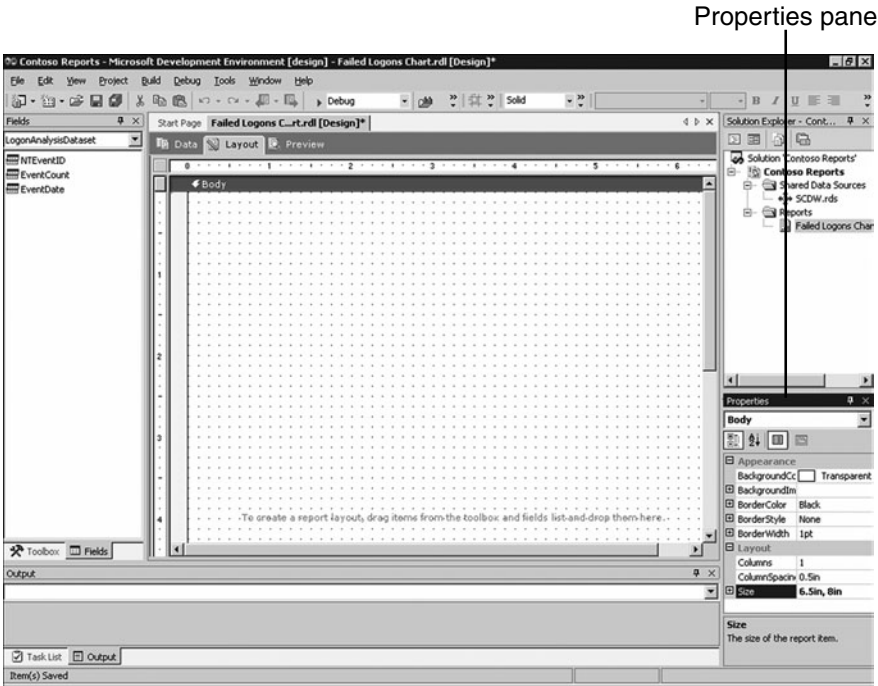

FIGURE 21.17 The Properties pane.
1. Select the Layout tab. Right-click on the body of the report and select Properties. Figure 21.17 shows the Properties pane.
The Properties pane will show the properties for the currently selected area or item. Figure 21.17 shows the properties of the Body as shown in the drop-down menu just below the pane title.